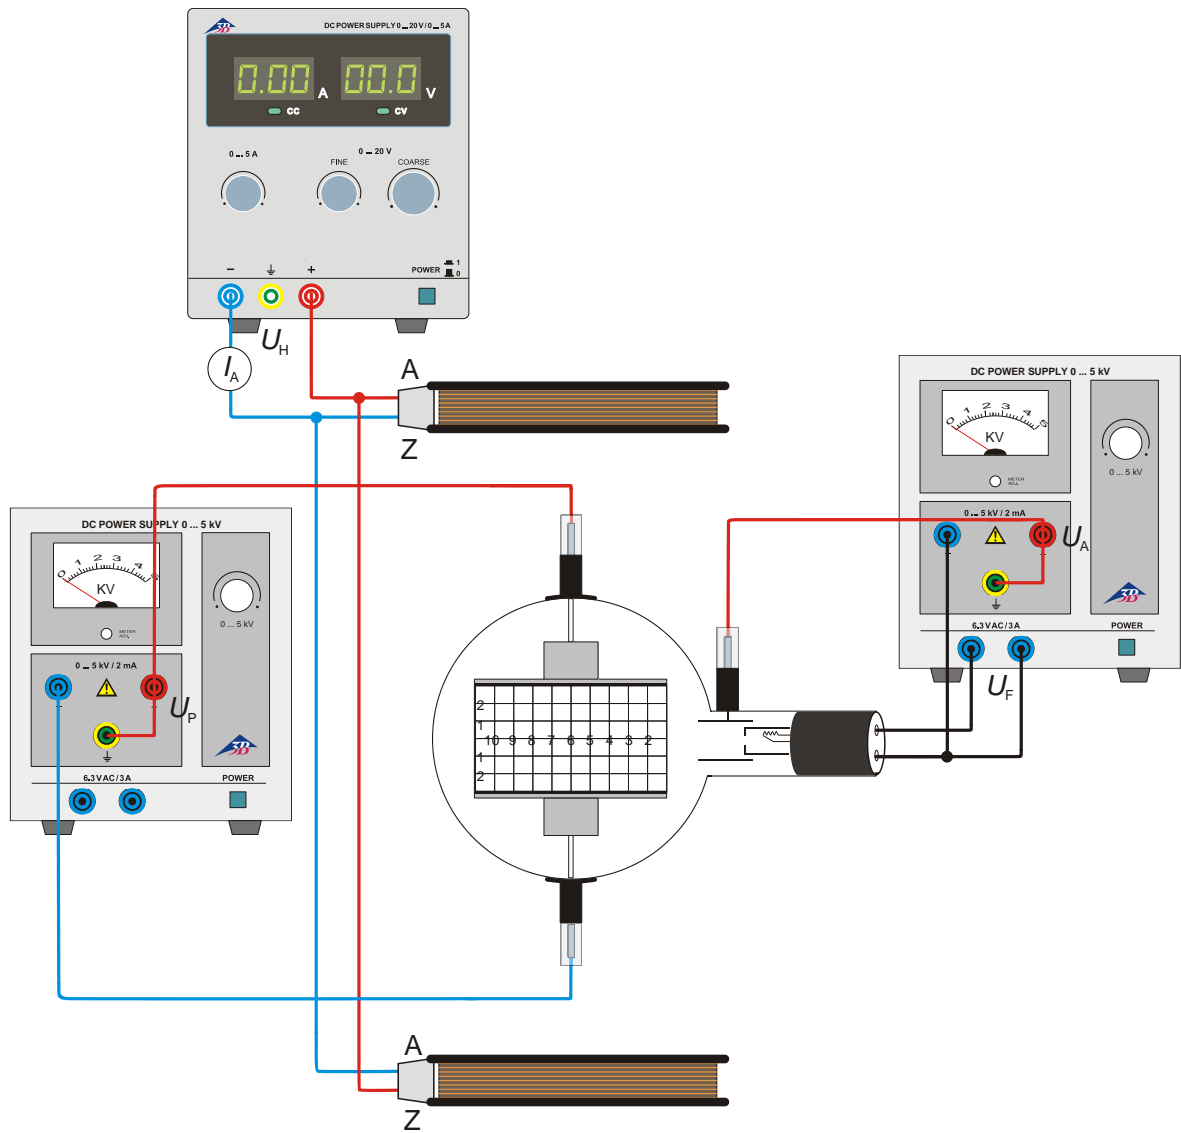

Fig. 4 Calculating  $e/m$  by means of field compensation
- Set up the experiment as in Fig 4.